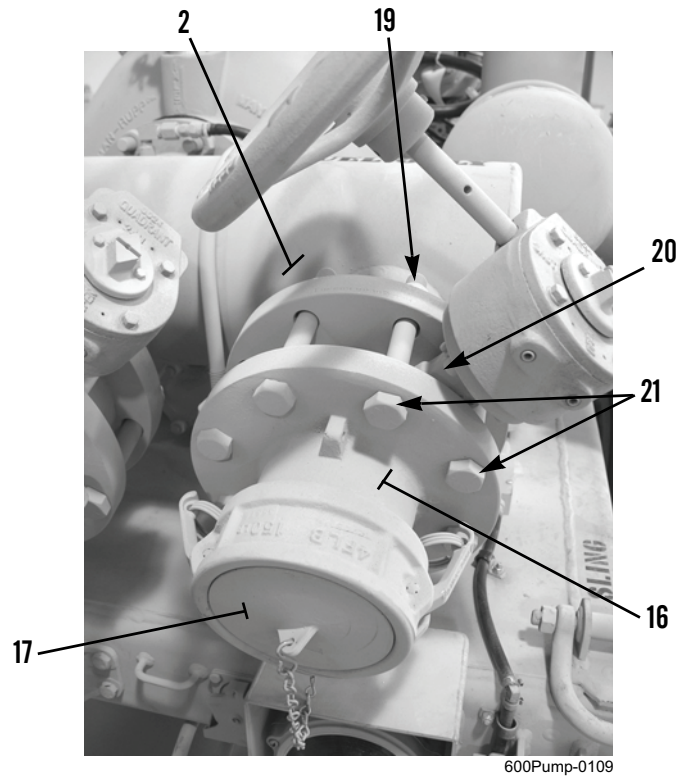
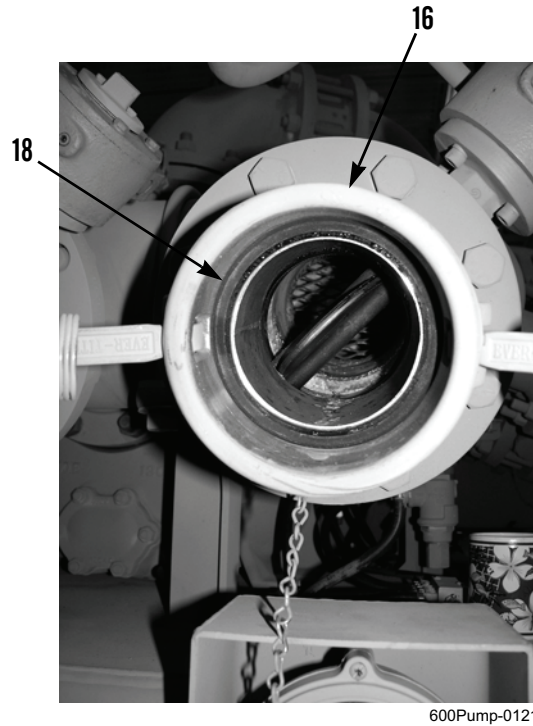

Figure 12. Suction Manifold Mounting.
Figure 13. Gasket Inside Suction Inlet Flange.
7. With assistance, position gate valve (Figure 12, Item 20) and suction inlet flange (Figure 12, Item 16) at inlet flange of suction manifold (Figure 12, Item 2). Install eight bolts (Figure 12, Item 21) and new locknuts (Figure 12, Item 19). Tighten locknuts to 60 lb-ft (81 Nm).
8. Ensure gasket (Figure 13, Item 18) is fully seated in groove in suction inlet flange (Figure 13, Item 16). Install plug (Figure 12, Item 17) to suction inlet flange.
9. Repeat steps 7 and 8 to install fittings on two remaining inlet flanges of suction manifold (Figure 12, Item 2).